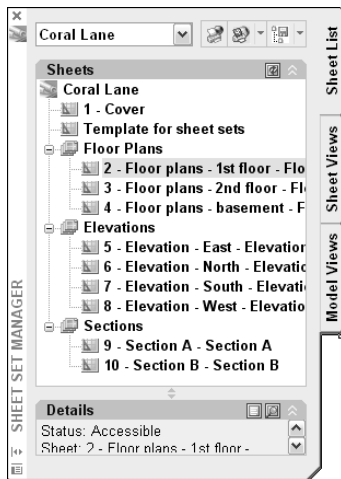

**Figure 26-19:** The Sheet Set Manager is the home base for your sheet sets.
You manage sheet sets and their individual sheets in the Sheet Set Manager, shown in Figure 26-19. The Sheet Set Manager is a palette like the Properties palette. For example, you can auto-hide it in the same way. To open the Sheet Set Manager, choose Tools ⇨ Palettes ⇨ Sheet Set Manager, click the Sheet Set Manager button on the Standard toolbar, or press Ctrl+4.
- ♦ **Sheet List** contains the sheets that you create for the sheet set. You use this tab to manage and organize the sheet set. You can set properties for the sheet set, for subsets (categories), and for individual sheets. You can use this tab to add and remove sheets, and to import a layout from another drawing as a sheet. You can also use it to plot, publish, eTransmit, or archive an entire sheet set or a selection of sheets, to rename and renumber sheets, and to close the sheet set. You can also open any sheet, which is the same as opening the drawing. Figure 26-19 shows the Sheet List tab.
Click Import Options to open the Import Options dialog box. Here you can decide whether you want the sheet name to include the drawing name before the layout name. You can also choose to use your folder structure to create subsets. For example, if you have folders named Floor Plans, Elevations, and Sections, you could automatically create the subsets that you see in Figure 26-19. Click OK to close the Import Options dialog box and return to the wizard.